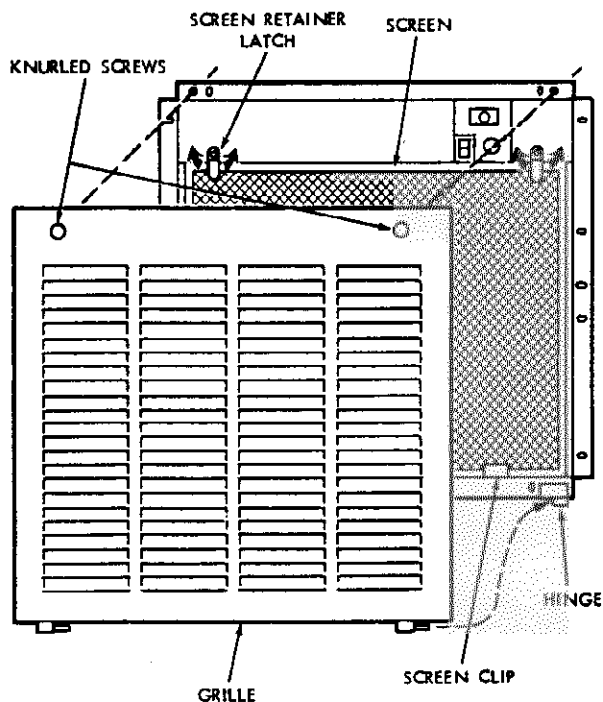

Figure 2
3. Release two knurled screws (FIG. 2) at upper edge of grille, open grille and slide it out of hinges at bottom by moving it to the left.
- c. Install electrical enclosure cover with three screws. (See figure 2.)
- a. Drop screen behind two screen clips at bottom of cabinet and fasten at upper edge with two spring retainer latches. (See FIG. 2)